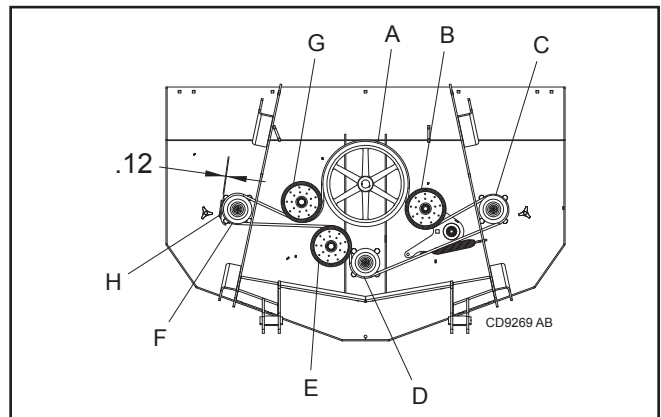

Figure 13. Belt Routing for TBW15.40 Wing Deck, TBW12.40 Rear Deck
4. Adjust belt guide G to provide 1/16" to 1/8" clearance from belt for decks in Figures 13 & 14. Tighten bolt to 85 ft-lbs.
2. For decks in Figures 13 & 14, route belt around backside idler G. Slide belt under drive sheave A for all decks.